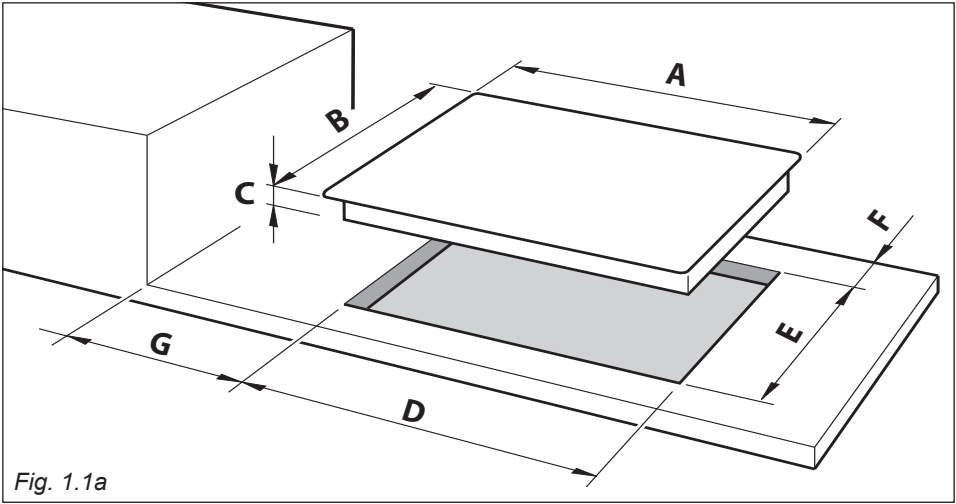

Fig. 1.1a
- The cooker top must be kept no less than 200 mm away from any side wall (from side edge of cutout - figs. 1.1a, 1.1b).
- The hob must be installed at least 60 mm from the wall (from rear edge of cutout - fig. 1.1a).
- Cut the unit according to the dimensions in fig. 1.1a.